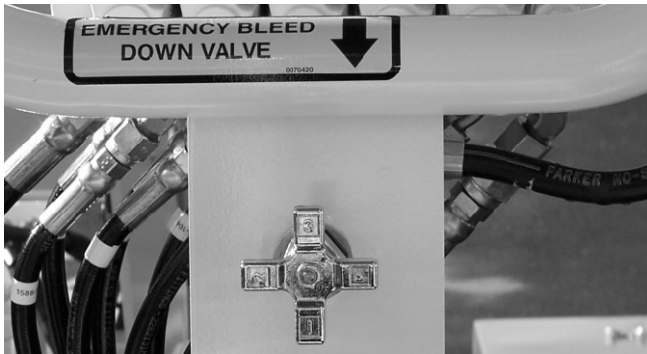

Figure 8.6 - Steel Platform, Emergency Lower Valve
5. **Emergency Lower Control:** Allows the platform to be lowered in the event of an emergency (Figure 8.6). See Chapter 11 "Emergency Operation" for details of emergency lowering procedures.